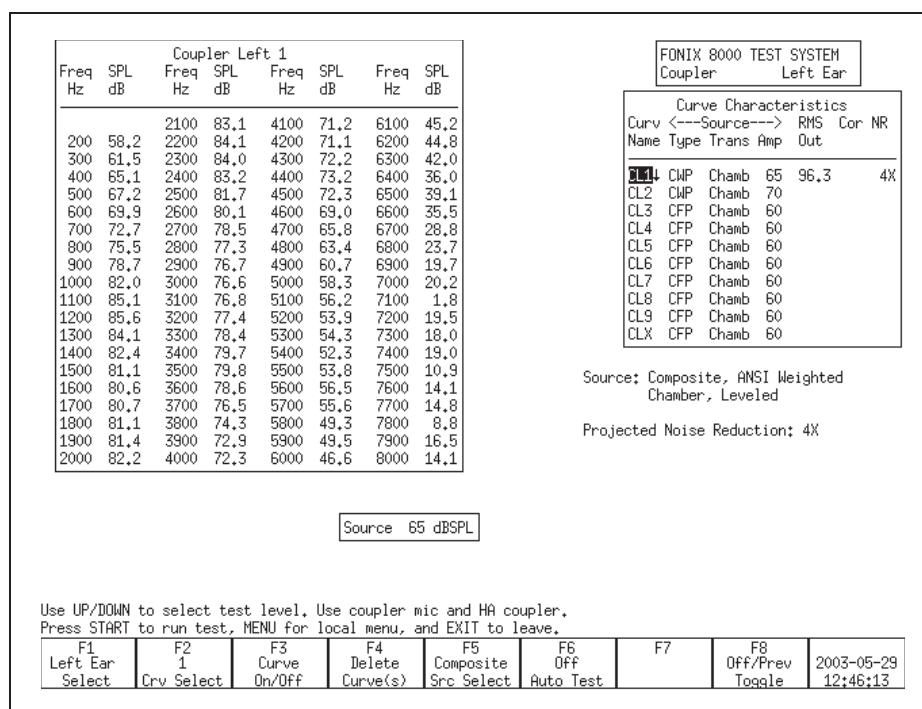

Figure 2.5.2—Data display of a composite measurement
5. Use [F2] to select the curve that you want to show. See Figure 2.5.2 for an example of the data display of a composite curve.